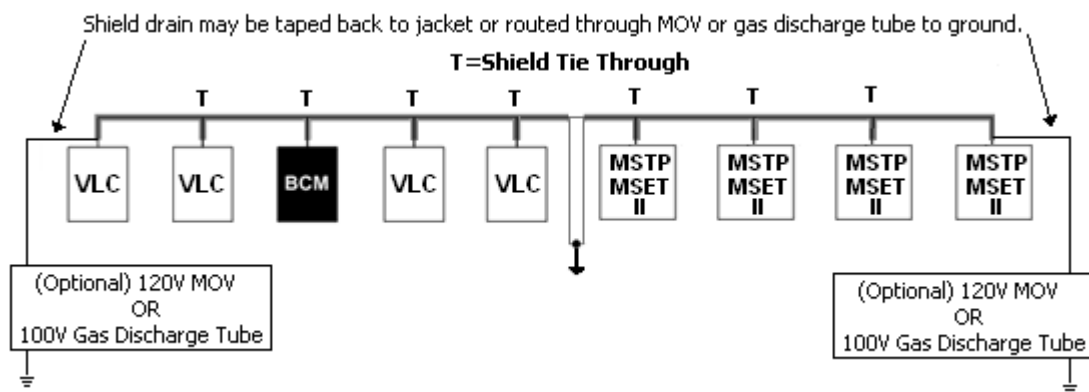

Figure 9 MS/TP shield drain termination and tie through
- Each MS/TP segment must have a single point of shield ground, as close to the middle of the cabling run as possible (see Figure 9).
- At ungrounded, exposed shield points (the end of a segment), tape back the shield to the wire jacket or, for optimum transient shunting, use 100V gas discharge tubes or 120V MOVs between the shield and ground. See Figure 9.